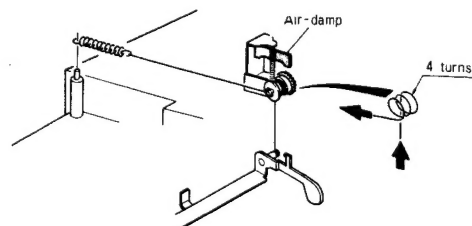

Fig. 8
- 4) Remove the air damp spring. (See figure 8)